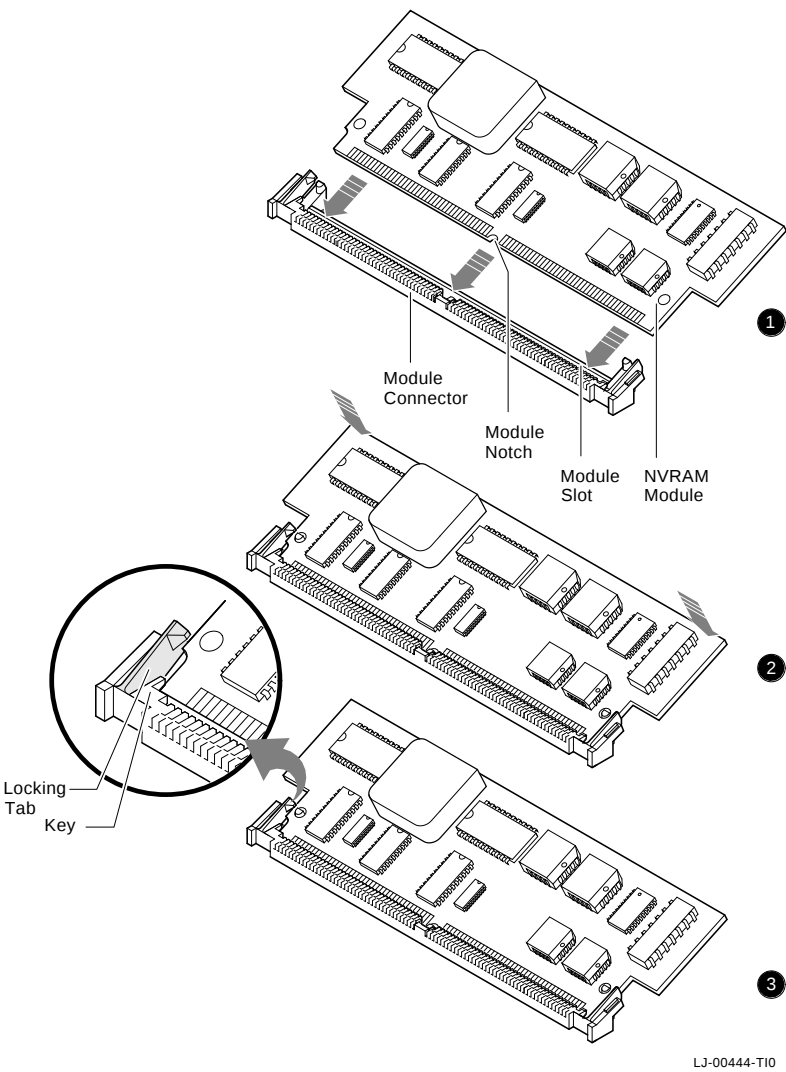

Figure 2-8 NVRAM Module Installation
5. To install the first NVRAM module, follow the steps shown in Figure 2-8: